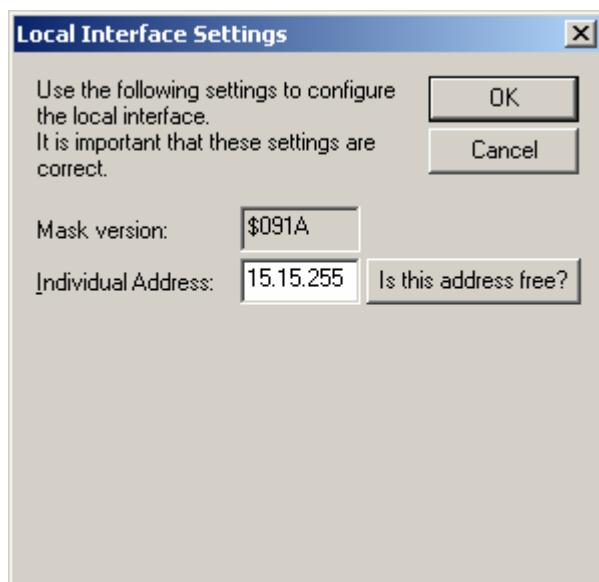

Fig. 10: Local interface settings
7. The local interface settings are accessible (cf. Fig. 10). Enter the physical address of the IP data interface in the "Individual address" field. It must be ensured that this address is not used by any other device in the ETS project (in case of doubt, verify with the "Is this address free ?" button). After successful assignment of an address, a dummy device should be inserted in the topologically correct place. The device is delivered with physical address "15.15.255".